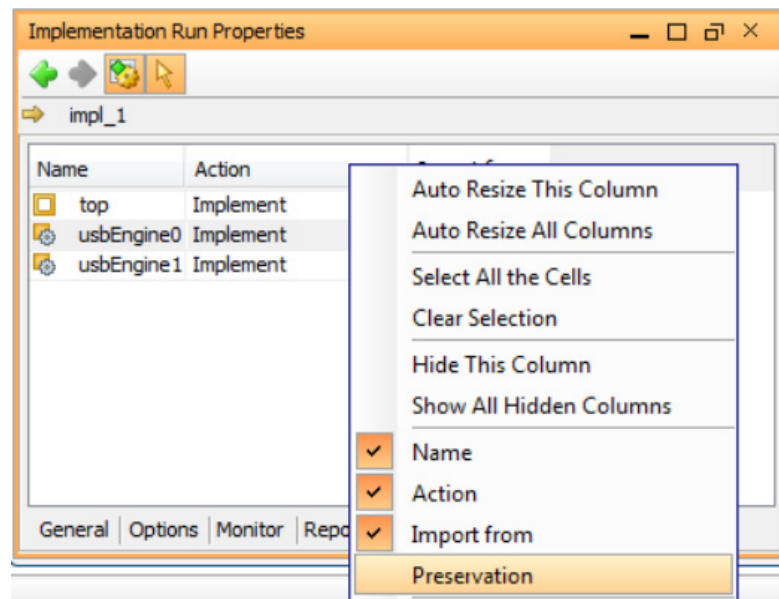

Figure 21: Adding the Preservation Level Attribute in PlanAhead
4. Right-click on the table header and select **Preservation** to add this column to the table, as shown in Figure 21.